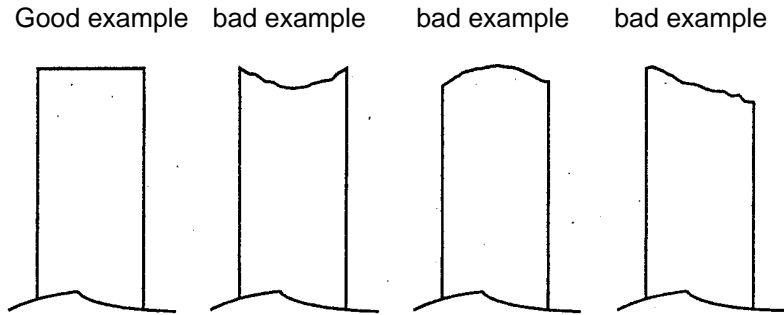

Figure A.1.3 Shape of Paper Edge
1. Cut the edge of the paper as shown in Figure A.1.3.